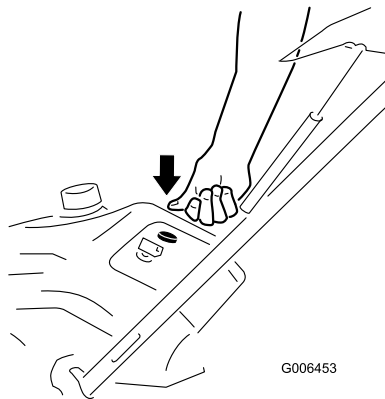

Figure 15
3. Firmly push in the primer 3 times with your thumb, holding the primer in for a second before releasing it each time (Figure 15).